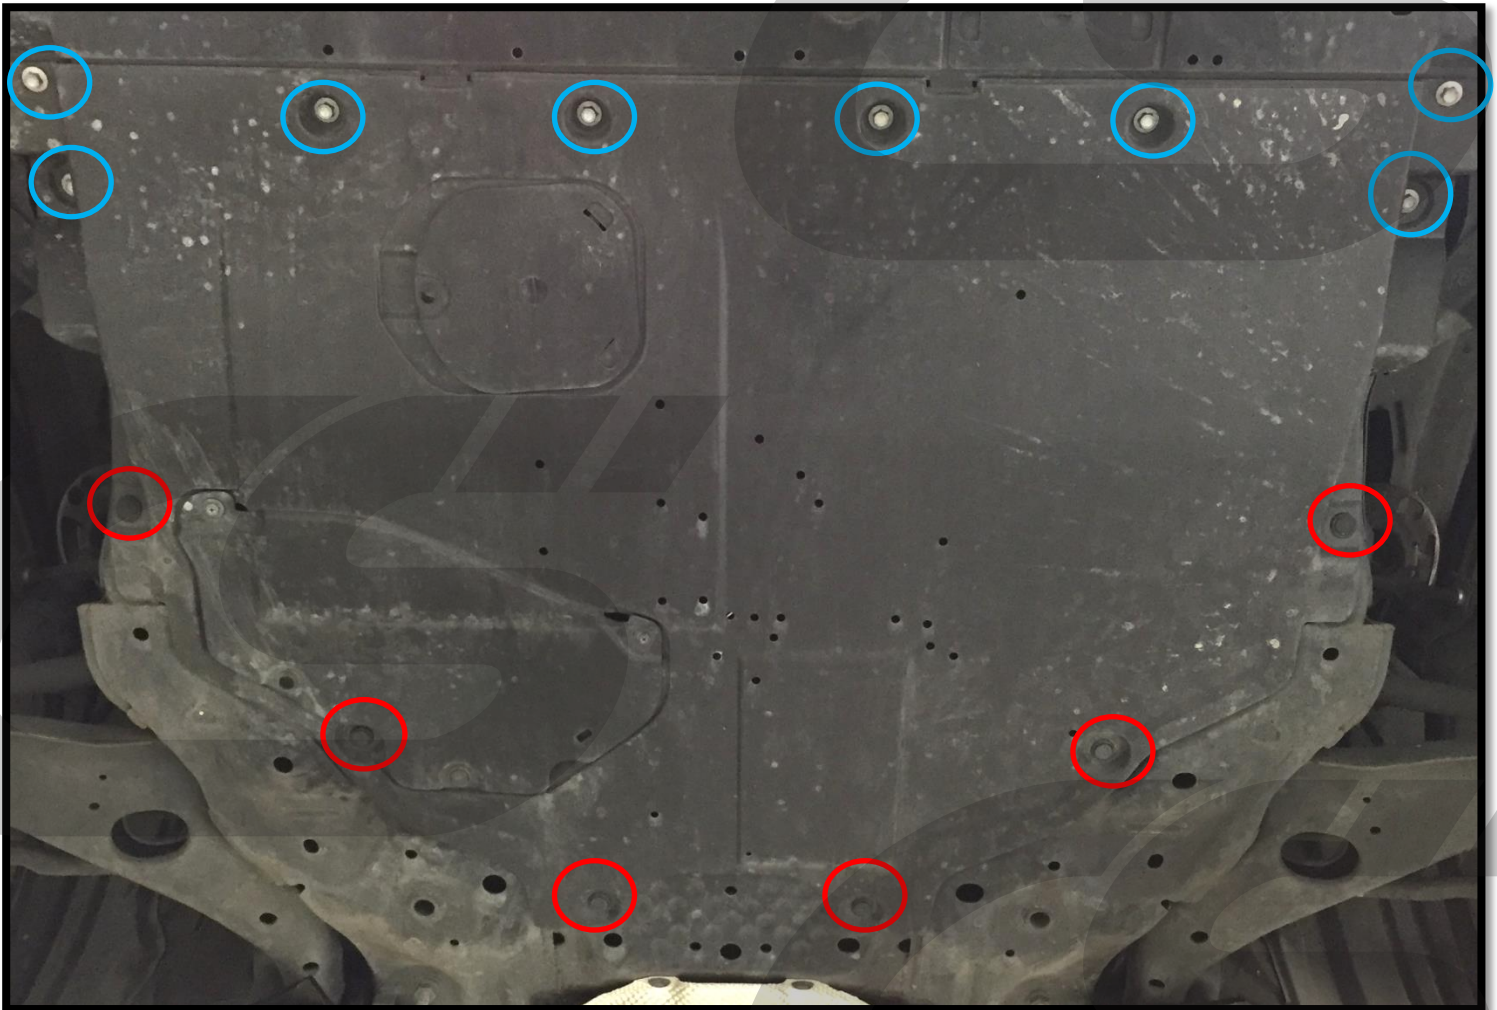

Figure 3a
- 1) Using a push-clip remover or flathead screwdriver remove six push-clips (circled in red in Figure 3a).
- 2) Using 10mm socket, remove eight bolts (circled in blue in Figure 3a).